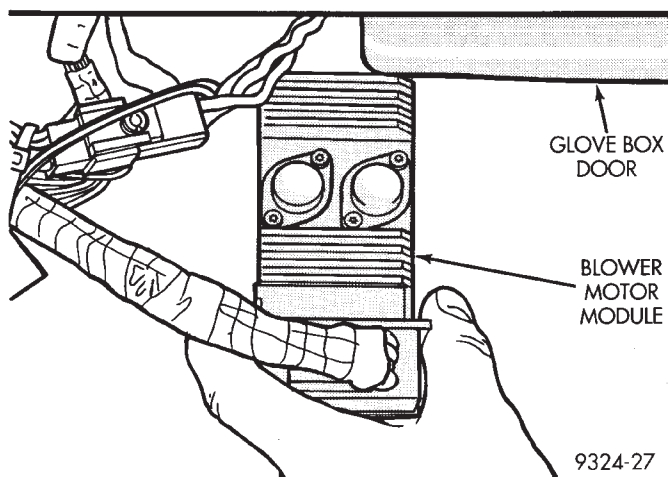

Fig. 28 Blower Motor Module Removal
- (1) Remove lower right under panel access cover silencer duct.
- (2) Disconnect wiring connector on blower motor module.
- (3) Remove blower motor module retaining screws.
- (4) Pull blower motor module out of heater housing (Fig. 28).